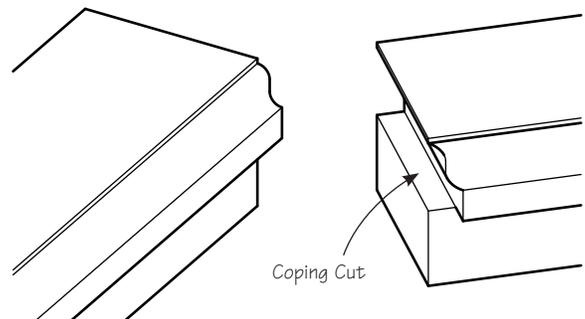
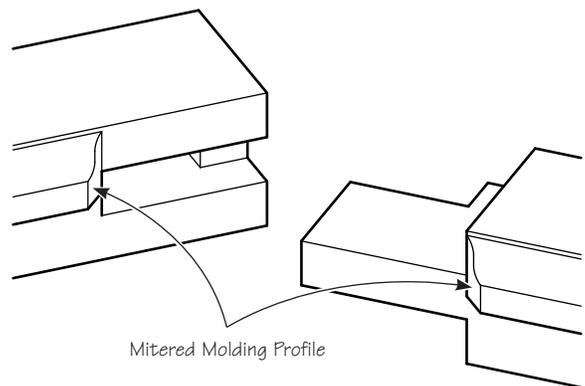

Figure 3: Coped joint formed with this bit.
Figure 4: Mortise and tenon joint.
This bit can be configured for both the sticking cut and the coping cut to form a joint as shown in **Figure 3**. Note that this butt joint does not have great strength and cannot be used for large or full-size French doors. For larger-scale projects, the frame must be assembled with proper mortises and tenons (see **Figure 4**).
5. For full-size doors assembled with tenons, cut the mortises and tenons as shown in **Figures 4 and 10**. Note that the profiled corners are mitered, rather than coped. For tenonless assemblies, the coping cuts should be made **after** the muntins are profiled.